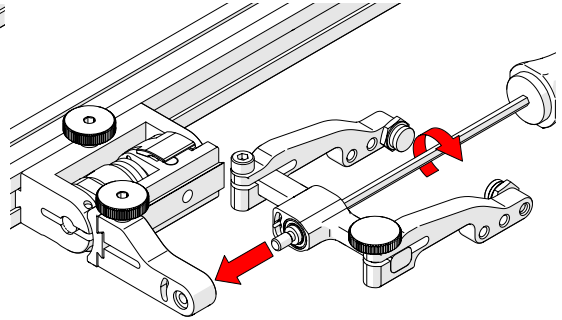

Fig. 86 - Install yoke to swing arm
6. Using the 3 mm hex driver, screw the yoke pivot screw into the opposite side of the probe holder swing arm (*Fig. 86*). Ensure the yoke is level to avoid issues with the plunger/set screw.